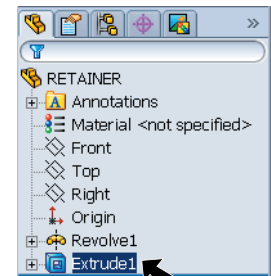

Fig. 18
Step 3. Click **Extrude1** in the Feature Manager (left panel) to select the feature, Fig. 18.